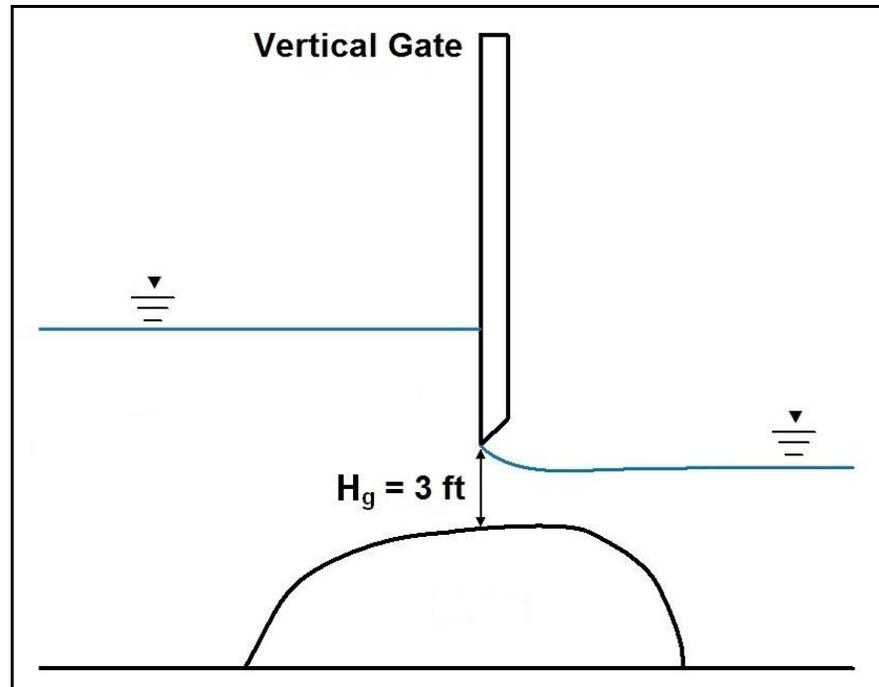

Figure 5 Height of gate opening
8. Enter “3” in the *Height of Gate Opening* ( $H_g$ ). This represents the opening measured vertically from the base of the structure to the top of the gate opening as shown in Figure 5.